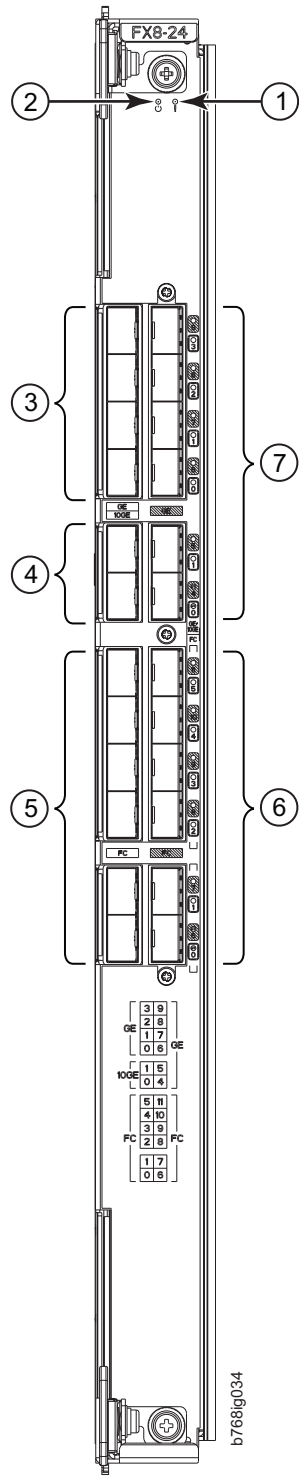

Figure 61. FX8-24 extension blade
- Figure 61 on page 173 shows the FX8-24 extension blade